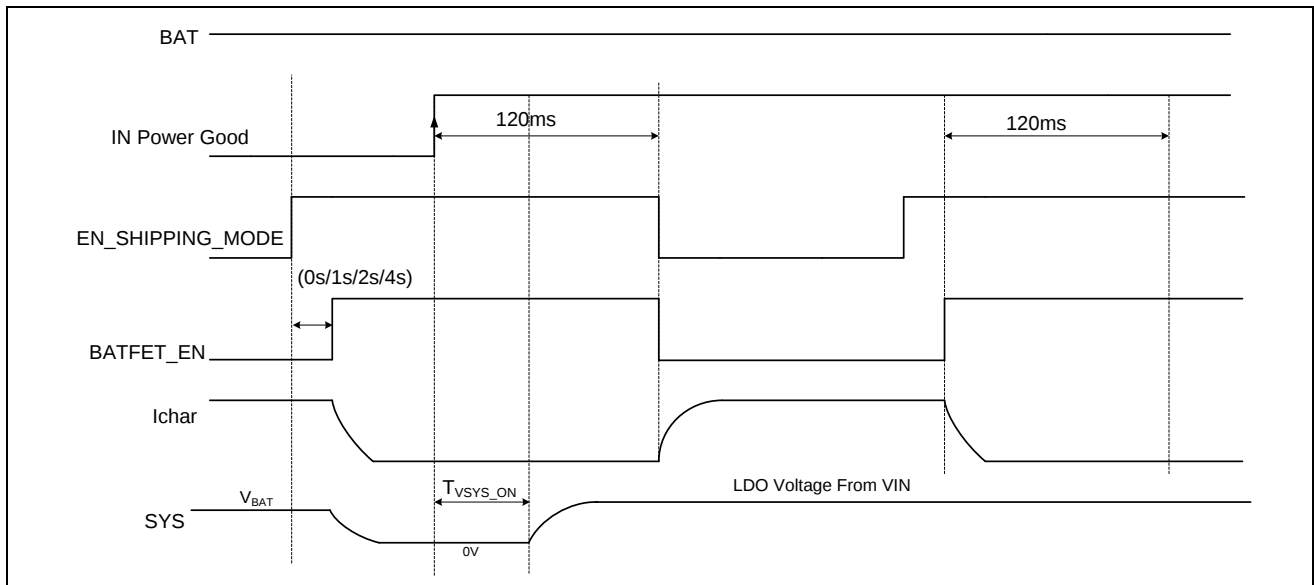

Figure 9. Enter Shipping Mode and Exit Shipping Mode by VIN Good Signal
2) When the IC is in the shipping mode and VIN connects to a valid power supply, the ET9563 could be woken up after 120ms. (refer to Table 3 and Figure 9).
In Figure 9, T_{VSYS_ON} (SYS voltage output time when ET9563 enter shipping mode with VIN is present) has following conditions: